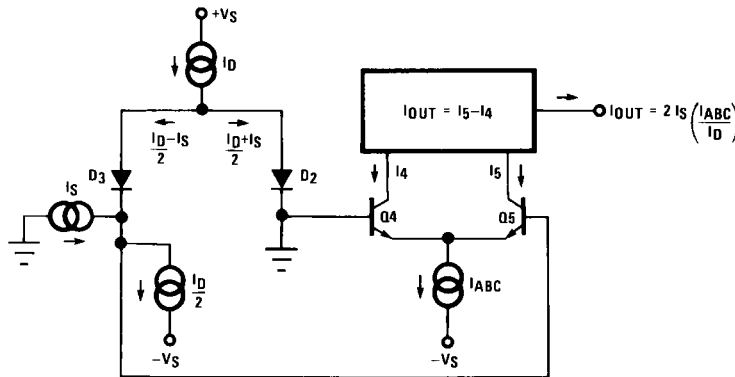
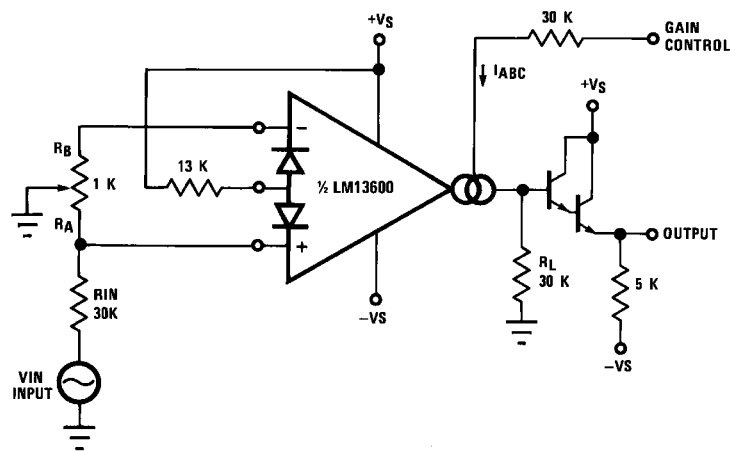
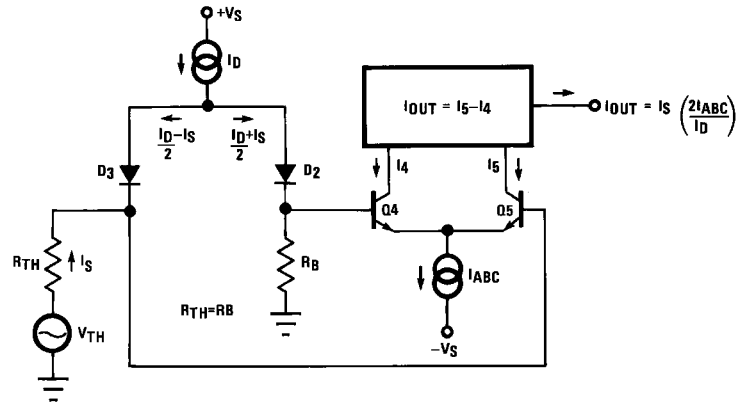

FIGURE 1. Linearizing Diodes
FIGURE 2. Voltage Controlled Amplifier
FIGURE 3. Equivalent VCA Input Circuit
For differential voltages greater than a few millivolts, Equation (3) becomes less valid and the transconductance becomes increasingly nonlinear. Figure 1 demonstrates how the internal diodes can linearize the transfer function of the amplifier. For convenience assume the diodes are biased with current sources and the input signal is in the form of current I_S . Since the sum of I_4 and I_5 is I_{ABC} and the difference is I_{OUT} , currents I_4 and I_5 can be written as follows:
Figure 2 shows how the linearizing diodes can be used in a voltage-controlled amplifier. To understand the input biasing, it is best to consider the 13 k Ω resistor as a current source and use a Thevenin equivalent circuit as shown in Figure 3. This circuit is similar to Figure 1 and operates the same. The potentiometer in Figure 2 is adjusted to minimize the effects of the control signal at the output.
For optimum signal-to-noise performance, I_{ABC} should be as large as possible as shown by the Output Voltage vs. Amplifier Bias Current graph. Larger amplitudes of input signal also improve the S/N ratio. The linearizing diodes help here by allowing larger input signals for the same output distortion as shown by the Distortion vs. Differential Input Voltage graph. S/N may be optimized by adjusting the magnitude of the input signal via R_{IN} (Figure 2) until the output distortion is below some desired level. The output voltage swing can then be set at any level by selecting R_L .
The circuit of *Figure 4* uses the excellent matching of the two LM13600 amplifiers to provide a Stereo Volume Control with a typical channel-to-channel gain tracking of 0.3 dB. R_P is provided to minimize the output offset voltage and may be replaced with two 510 Ω resistors in AC-coupled applications. For the component values given, amplifier gain is derived for *Figure 2* as being:
Noting that the gain of the LM13600 amplifier of Figure 3 may be controlled by varying the linearizing diode current I_D as well as by varying I_{ABC} , Figure 7 shows an AGC Amplifier using this approach. As V_O reaches a high enough amplitude ($3 V_{BE}$) to turn on the Darlington transistors and the linearizing diodes, the increase in I_D reduces the amplifier gain so as to hold V_O at that level.